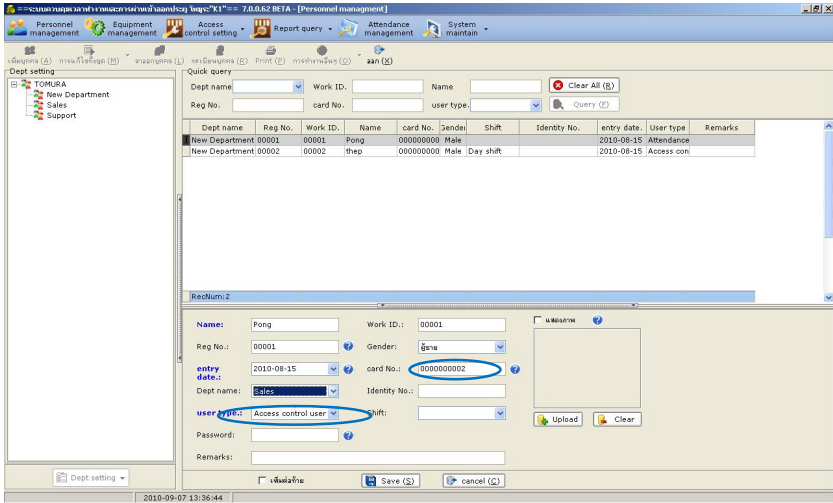

Figure 2.52
1. Personnel management: Enter personnel one by one, please enter password/card number when entering. (Figure 2.52, take the card as an example) (If entry has been done, this step can be omitted).